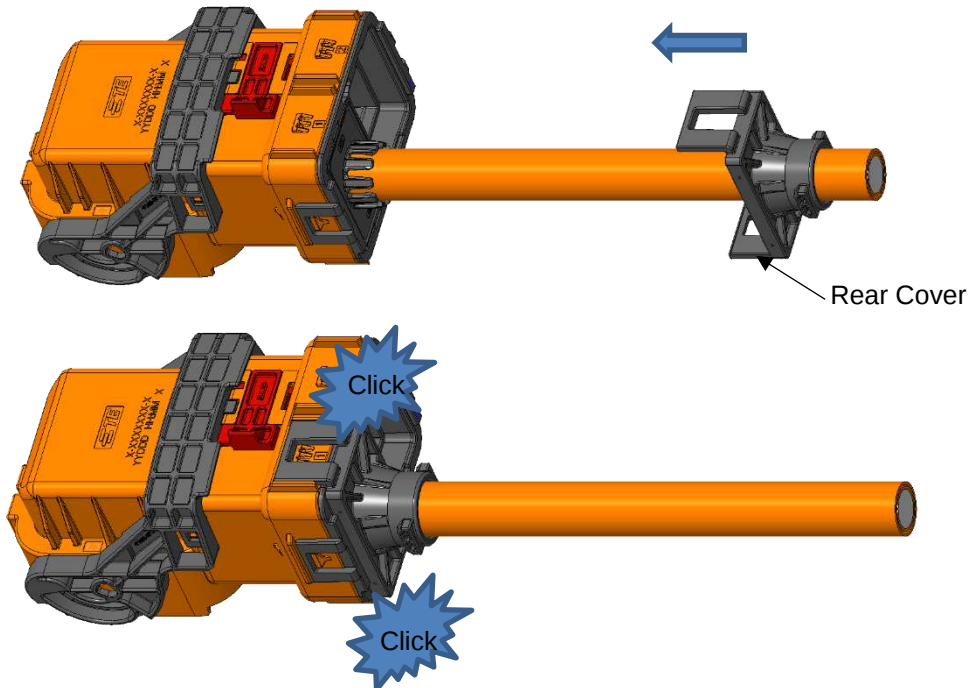

Figure 14: Rear Cover Assembly
12. Slide the rear cover forward on the cable and latch to the plug sub-assembly as shown in Figure 14. Verify that both rear cover latches are fully locked.